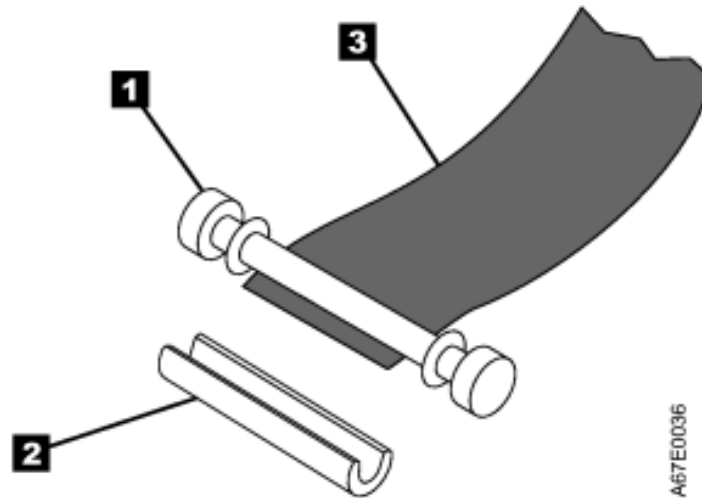

Figure 41. Removing the C-clip from the leader pin
5. On the leader pin (1 in Figure 41 on page 133), locate the open side of the C-clip (2). The C-clip is a small black part that secures the tape (3) to the pin.